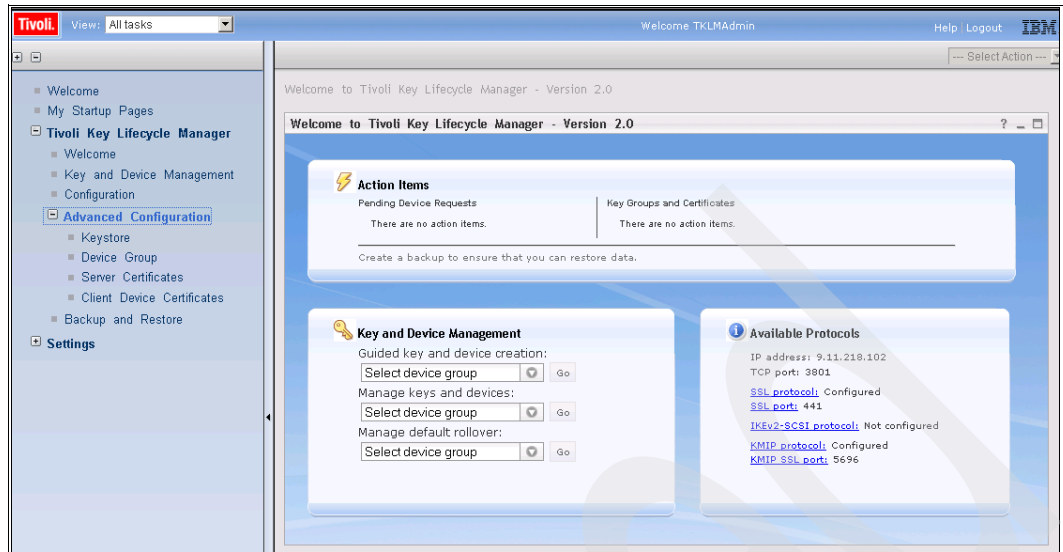

Figure 9-28 Welcome panel with advanced configuration selected
2. Select **Tivoli Key Lifecycle Manager** → **Advanced Configuration** in the navigation pane (Figure 9-28).